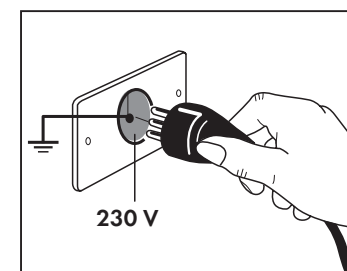

Fig. 1
- Make sure that the mains electrical installation (230 V~) is provided with earth plate as required by regulations in force. (Fig 1)